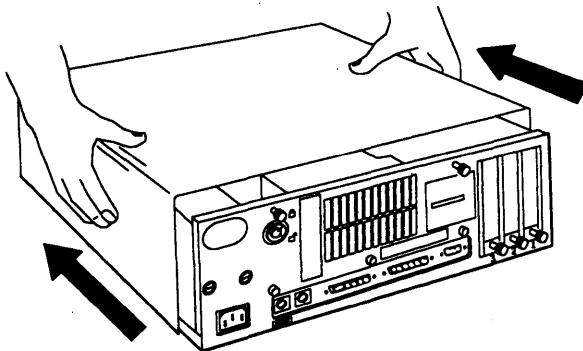

Figure 18: Removing the Cover of the Model 50
6. Grasp the cover in both hands and slide it forward and off as shown in Figure 18: